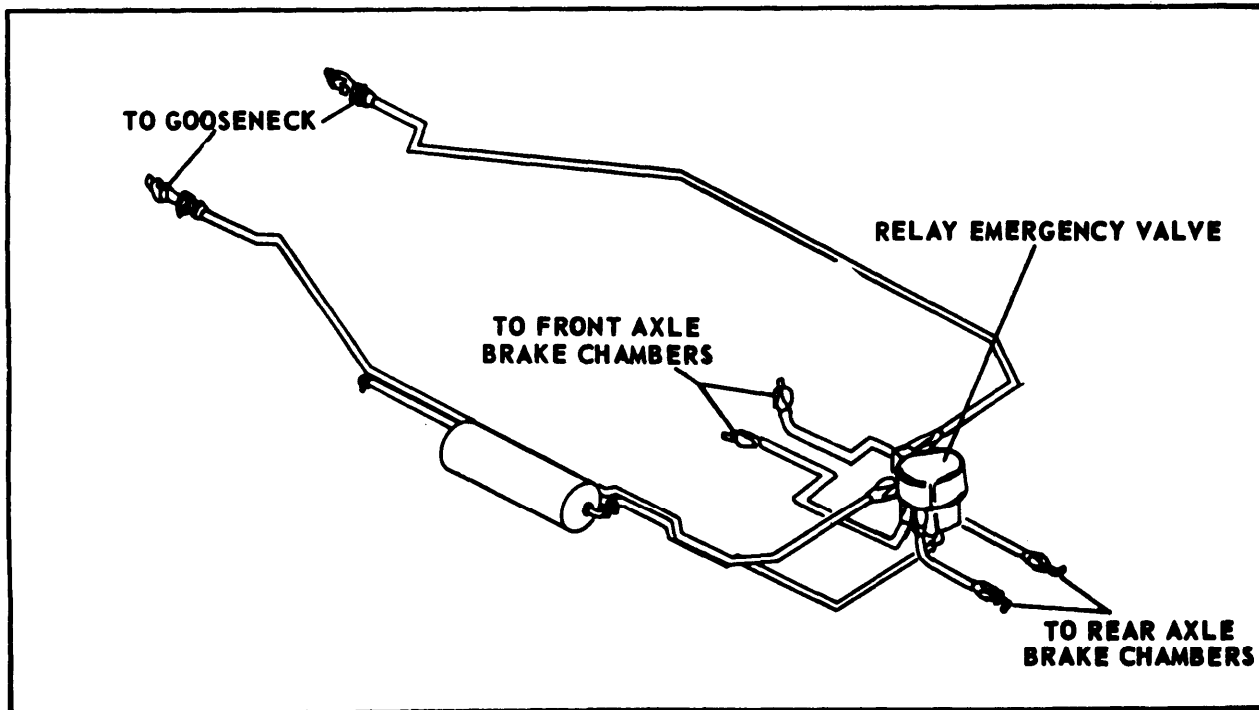

FIGURE 7-1. BRAKE AIR SUPPLY.
**7-3. BRAKE AIR SUPPLY SYSTEM DESCRIPTION (see figure 7-1).**